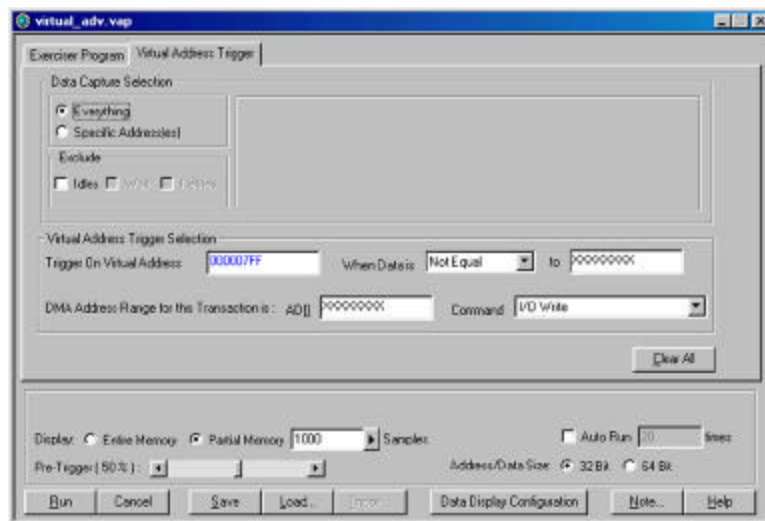

Figure 65 Virtual Address Trigger Dialog Box
1. Click the **Blue** button on the Main Menu bar to open the Custom Project dialog box shown in Figure 65.